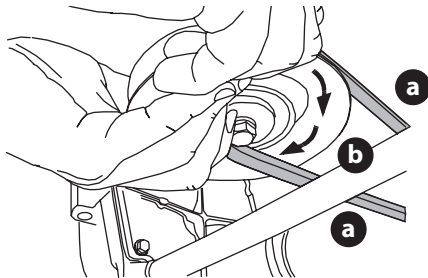

Fig. 42
- d. While still holding the PTO belt (a) downward, continue turning the PTO pulley (b) until the PTO belt (a) is rolled off the PTO pulley (b) (Fig. 42).
8. Pull the right side of the PTO belt rearward and place the narrow V-side of the PTO belt into the PTO pulley (Fig. 42 on page 31).
9. While holding the PTO belt and PTO pulley together, rotate the PTO pulley to the left (Fig. 42 on page 31). Continue holding and rotating the PTO pulley and PTO belt until the PTO belt is fully rolled into the PTO pulley.